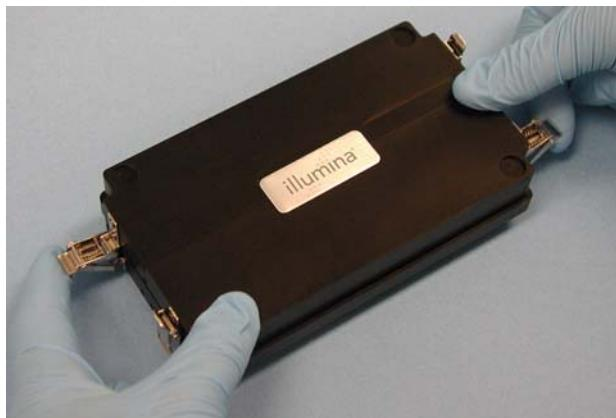

Figure 114 Sealing the Hyb Chamber
4. Close and lock the BeadChip Hyb Chamber lid (Figure 114).
5. Leave the closed Hyb Chambers on the bench at room temperature until the BeadChips are loaded with DNA sample (Figure 114).